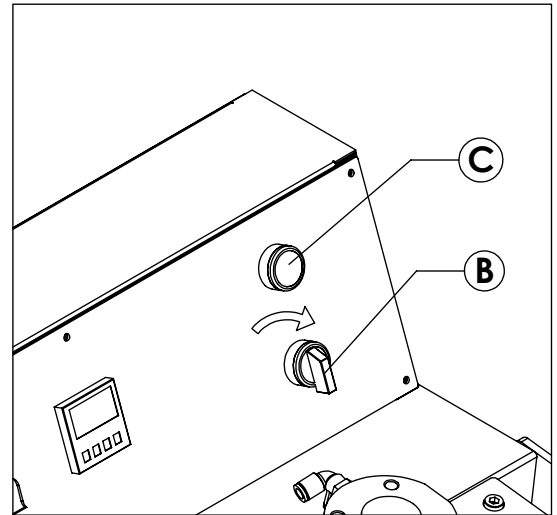

Figure 3
-Turn 1th and 2nd on/off buttons to the right. (Figure.3-B)
-Push Time Entering Button (Figure.3-C) during 3 seconds. At the end of the time button's light to be on and off.
-If 2nd pressing time is zero your machine does not run. For running of the machine you have to set 2nd pressing time. (Figure.3)